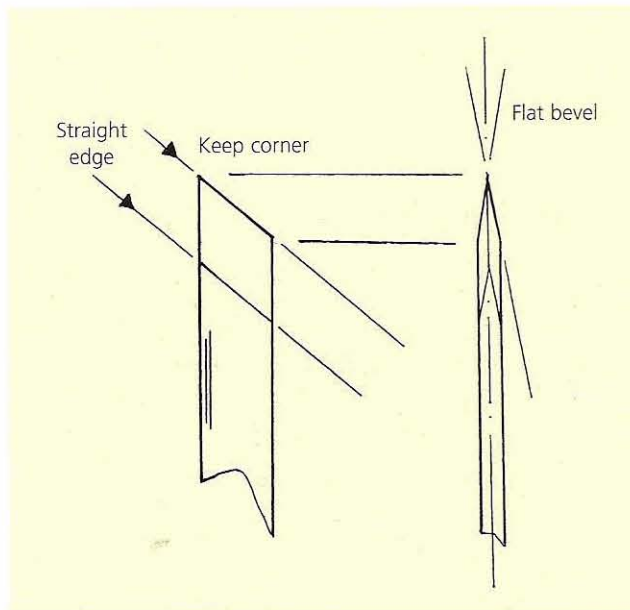

Fig 12.28 Features of a correctly sharpened skew chisel
- ③ Grind the bevel flat, with the heel parallel to the cutting edge. To do this, position the handle at a corresponding angle to the side of the wheel. Work more on the thicker end of the wedge, and remember that *the point can be overheated very easily*. Keep the cutting edge in the centre of the metal (Fig 12.28).